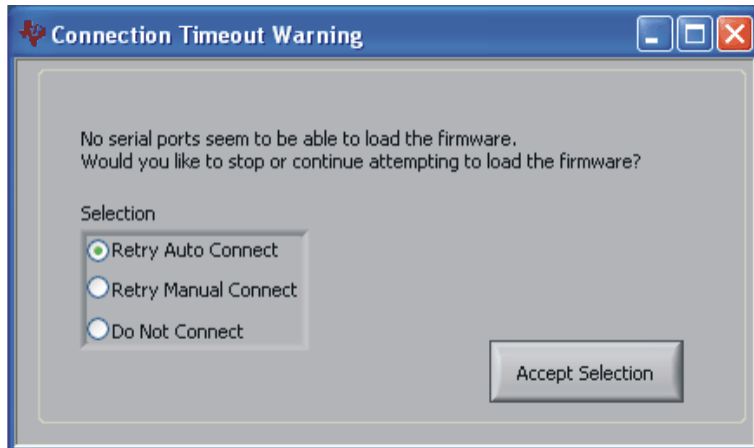

**Figure 10. ADS1248EVM-PDK Plug-In Display Window**
Step 2. Select *ADS1248EVM* from the EVM drop-down menu. The ADS1248EVM-PDK plug-in appears in the left pane, as shown in Figure 10.